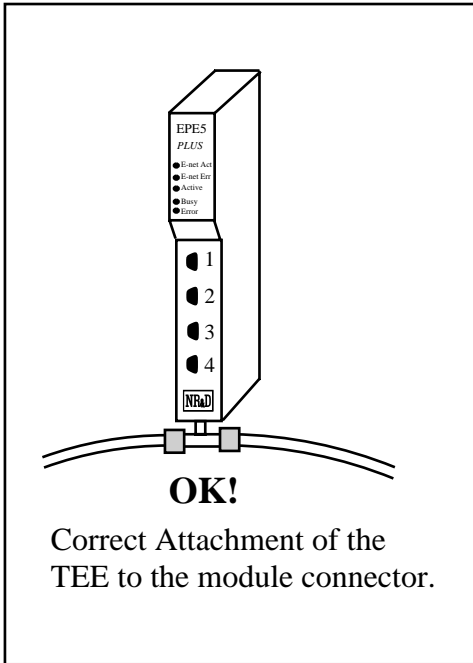

Figure 2-10 Correct TEE connection
- 1 Connect a coaxial TEE to the connector on the bottom of the EPE5. This connection must be made directly. It is not permitted to use any length of cable from the TEE to the connector on the EPE5. See Figures 2-10, 2-11, and 2-12.